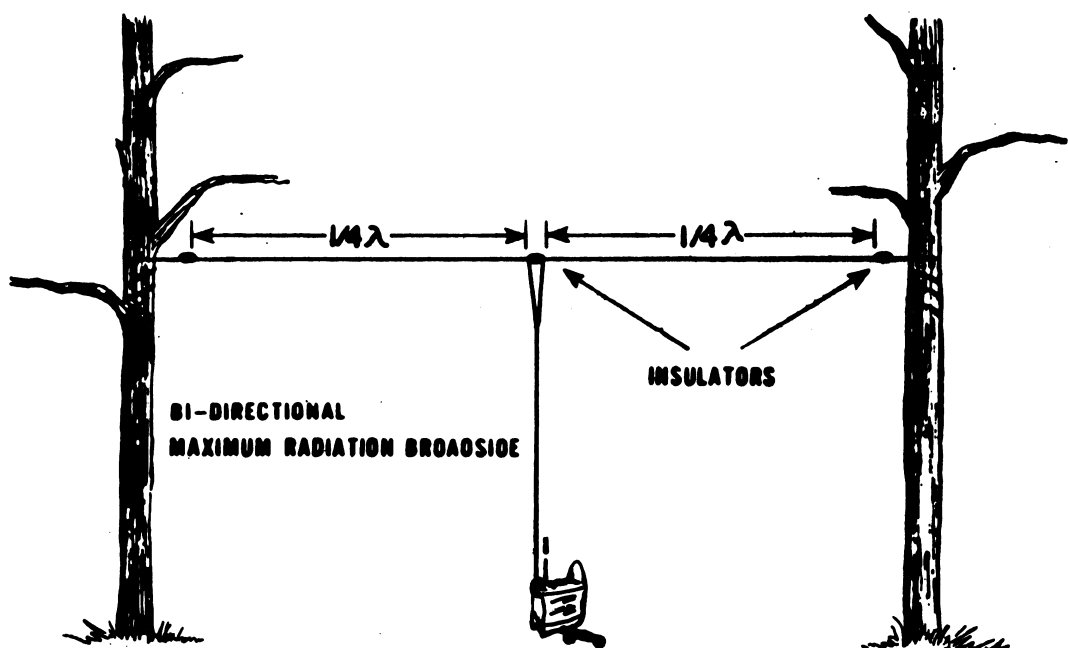

Figure 3. Half-wave doublet antenna.
3. Half-Wave Doublet Antenna. This antenna can be used with any type of radio and can be constructed in a horizontal or vertical plane (fig. 3).